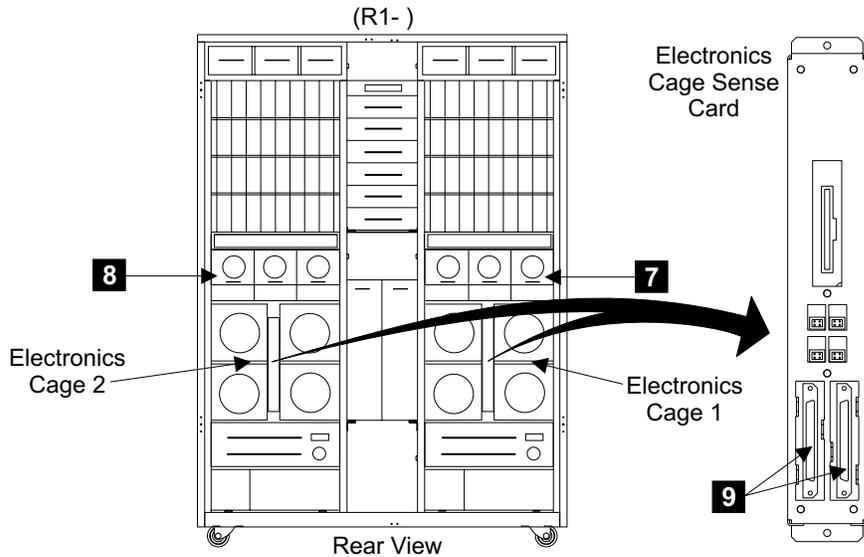

Figure 98. Electronics Cage Rear Locations (S008319m)
- a. Disconnect the two lower cables (CN401 and CN402) from the electronics cage sense card **9**, see Figure 98.